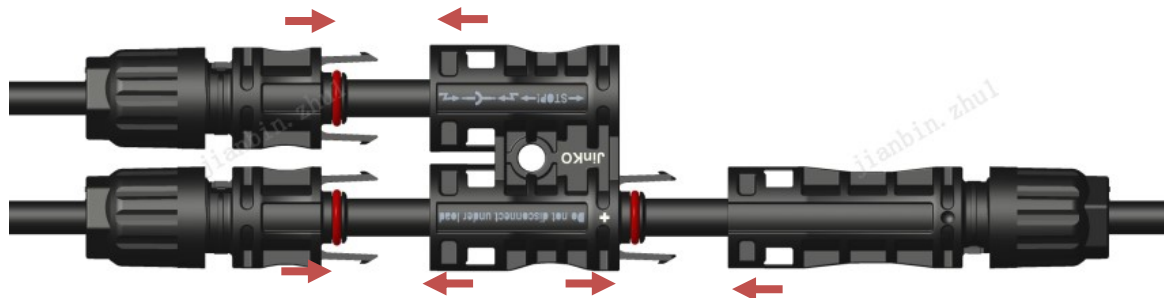
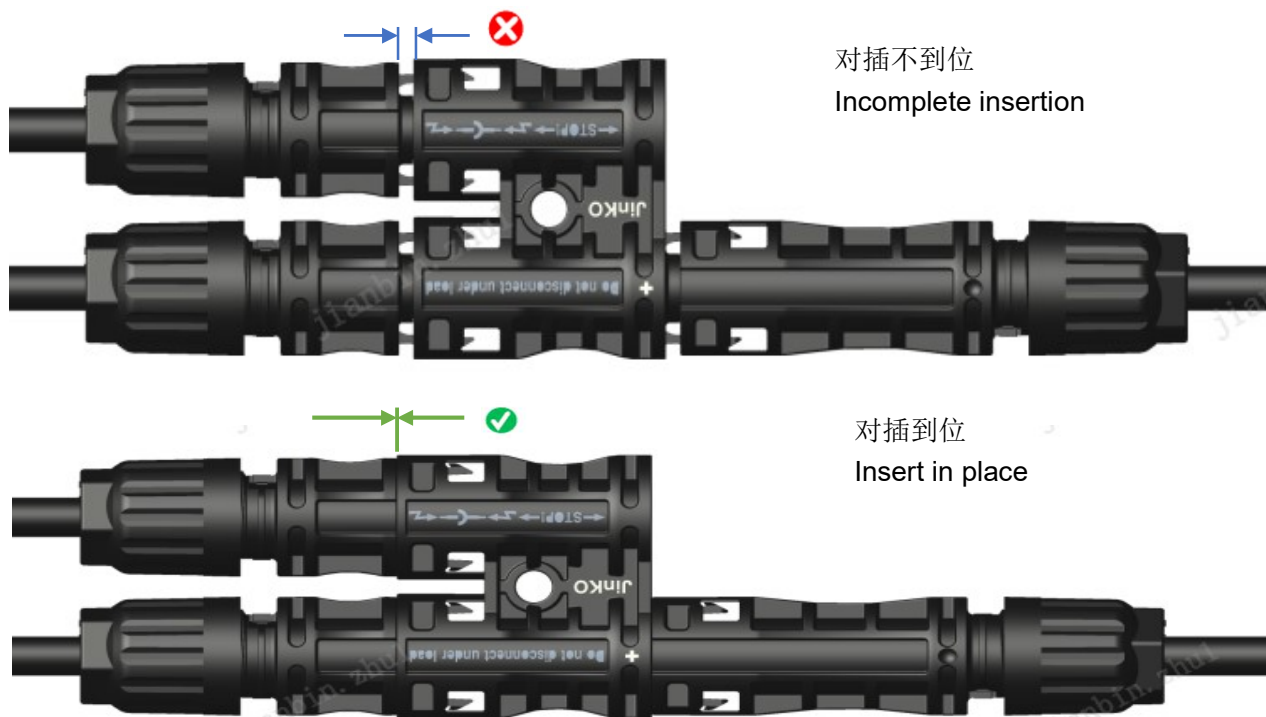

Figure 1
Figure 2
- ◇ 分支连接器与公母电缆连接器插合：使用公母电缆连接器与保险丝连接器进行对插，直至其啮合。拉拔对插的连接器，检查保险丝连接器与公母电缆连接器是否完全连接好（如图 1）；禁止安装未完全耦合的连接器，避免锁扣失效，安装时须检查是否对插到位（如图 2）。
Insert the branch connector with the male and female cable connector until they engage. Pull the plug connector and check whether the fuse connector and the male and female cable connector are completely connected (Figure 1). Do not install connectors that are not fully coupled to avoid lock failure. Check whether the connectors are properly inserted (Fig. 2).